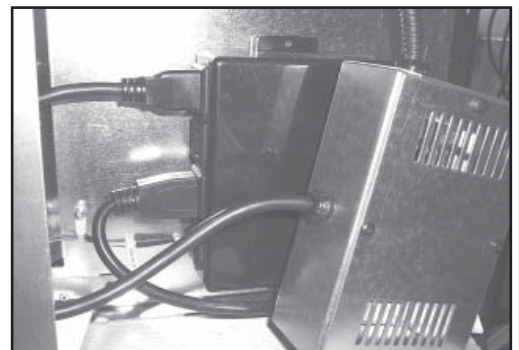

Figure 17: Plugging PVK into Electric Box.
13. Connect the wires to the fan, vacuum switch, and ground according to the wiring diagram in Figure 17. Secure the green ground wire as shown in Figure 9. Route the wires as shown in Figure 10 to prevent them from getting pinched.
18. Plug the power cord from the PVK Control Box into the top outlet of the Electric Box on the side of the unit as shown in Figure 17.